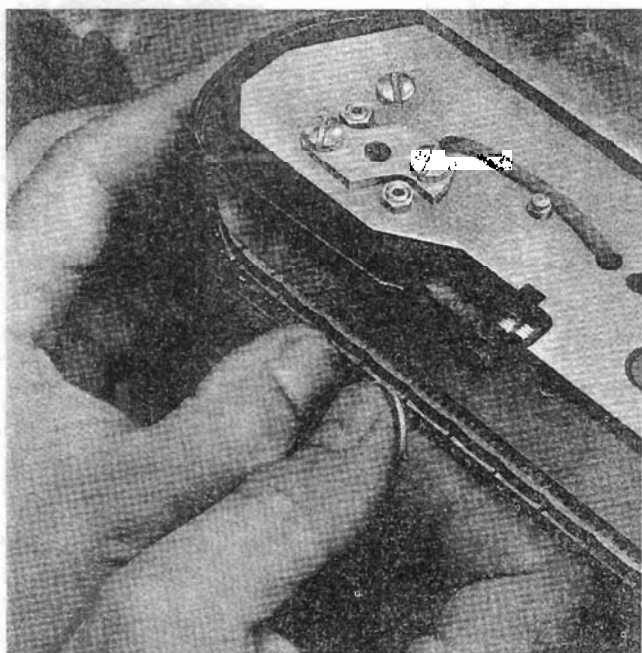

Figure 75. Method of Separating Type Slugs
1. Open the T-casting and separate any two adjacent slugs at a point to the right of the train idler gear (Figure 75). To do this, hold one of the slugs tight against the track with your left thumb. With your right hand, use a coin to move the adjacent slug to the right.